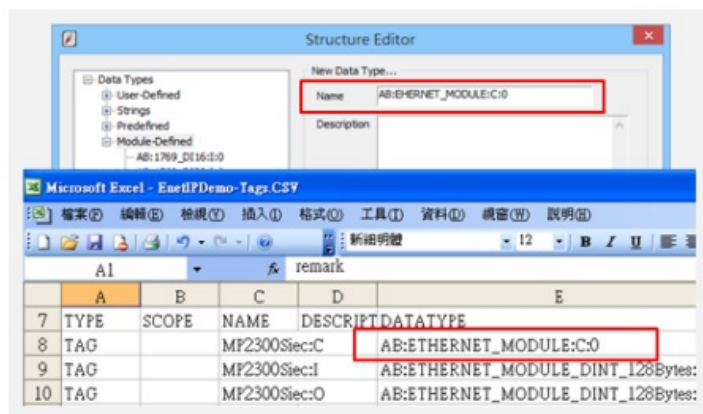

Fig.12 Structure Editor
Step 2. As in Fig 12, in Structure Editor add Name of the new data type. The Name must